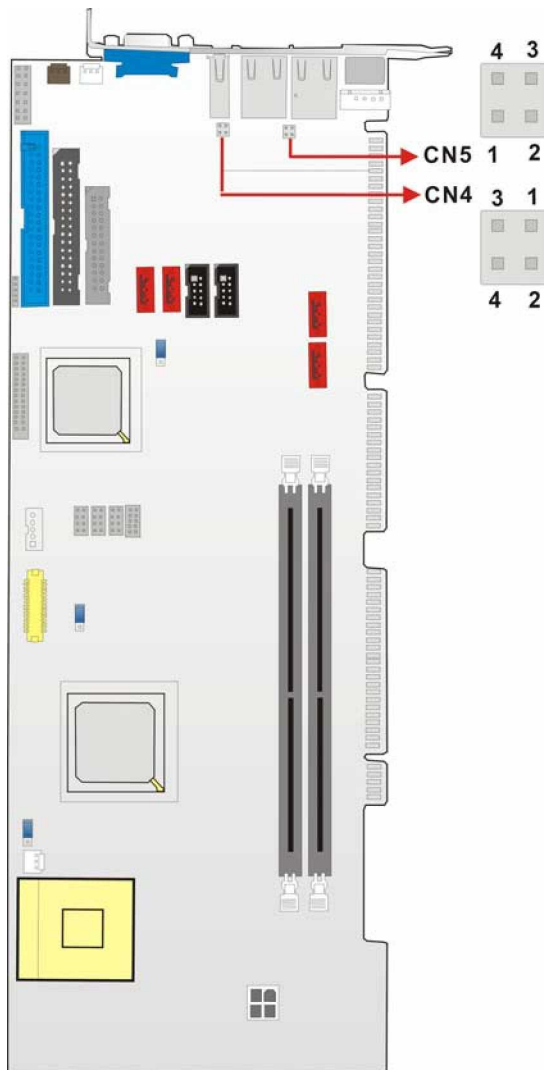

Figure 3-15: J\_LANLED Connector Locations
- CN Location:** See Figure 3-15